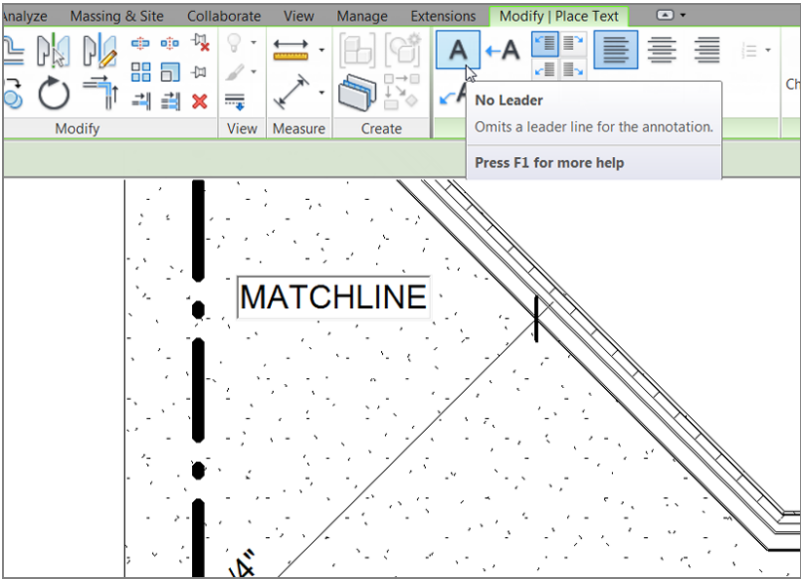

FIGURE 13.12: Typing the text MATCHLINE
3. On the Modify | Place Text tab are leader options. Click the No Leader button (the letter A), as shown in Figure 13.12.
5. Type the word **MATCHLINE**, click off the text, and press Esc twice (see Figure 13.12).